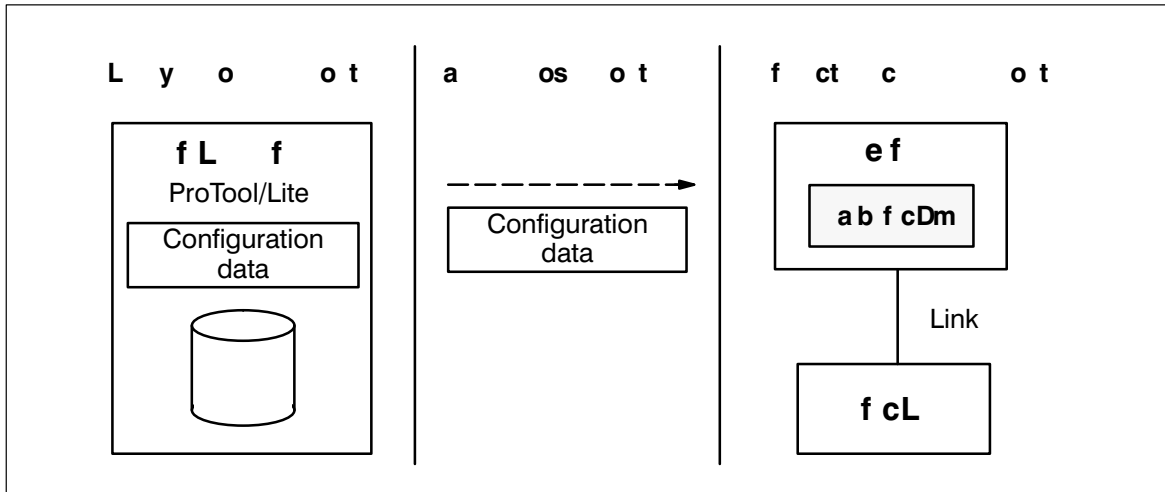

Figure 1-1 Configuration Phase, Download Phase and Process Control Phase
- Configuration data** Configuration is performed on a PC or a programming unit (PU). The configuration then has to be compiled under ProTool/Lite and downloaded to the OP. If there is link to the PLC, the OP displays the current values of variables. Figure 1-1 shows the different phases in which work is performed on configuration data.